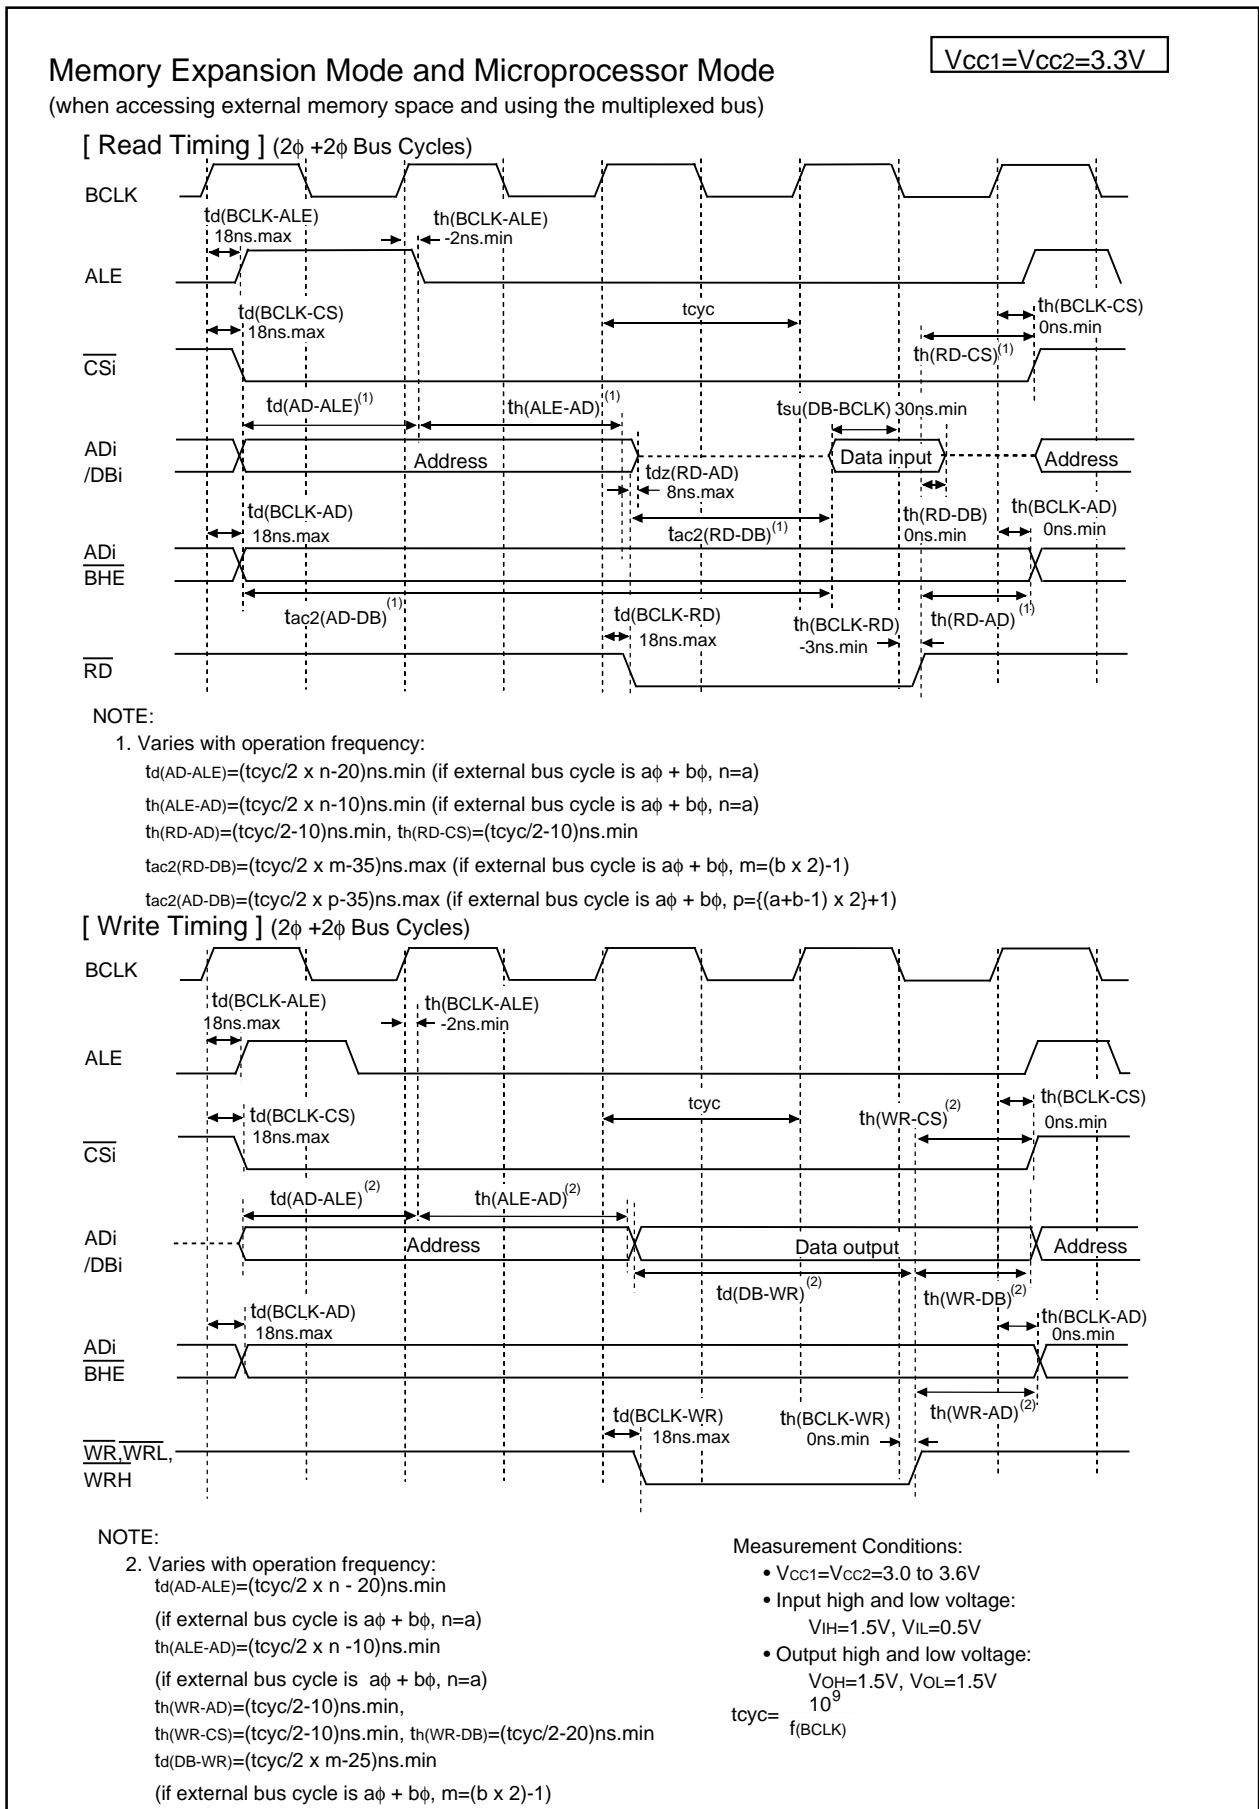

Figure 5.7 V_{CC1}=V_{CC2}=3.3V Timing Diagram (2)
53	<ul style="list-style-type: none"> • Figure 5.7 Vcc1=Vcc2=3.3V Timing Diagram (2) Expression for tcyc added; notes 1 and 2 corrected